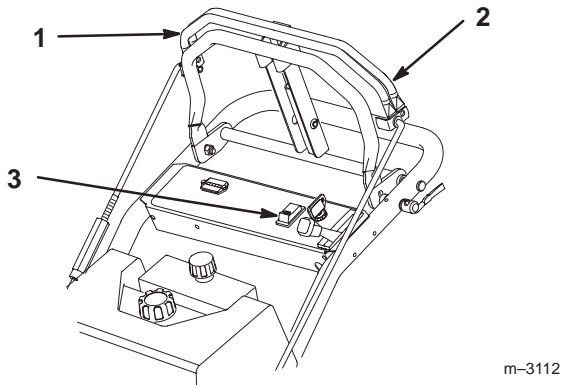

Figure 13
1. Release the upper control bar to stop the machine (Fig. 13).
2. To engage blade, squeeze blade control bail against upper control bar (Fig. 13).
- Release the blade control bail to disengage blades (Fig. 13).